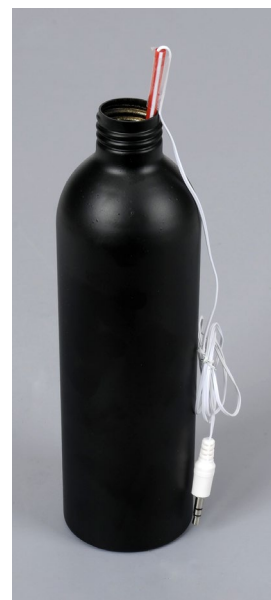

Figure 5: Temperature Probe Hooked on Can
5. Put the temperature probe 1 in the silver can, probe 2 in the black can, and probe 3 in the white can. Let the taped end act as a hook as shown in Figure 5.